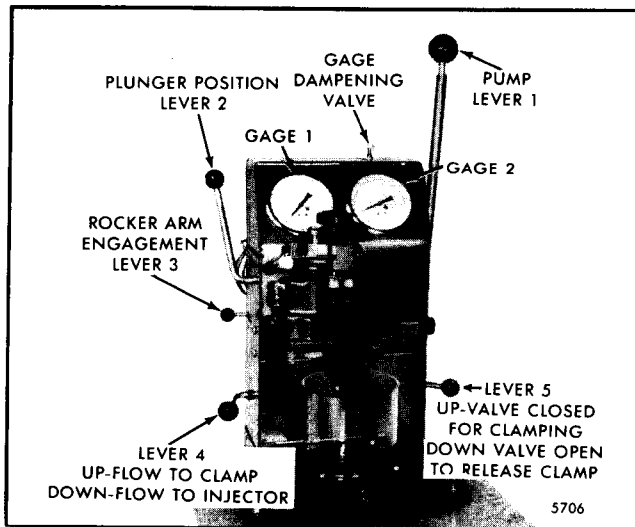

Fig. 13 - Injector in Position for Testing with Tester J 23010
1. Refer to Fig. 13 and position the injector tester levers as follows:
1. Move lever 4 *down* and operate pump lever 1 rapidly with smooth even strokes (40 strokes per minute) simulating the action of the tip functioning in the engine (Fig. 13).